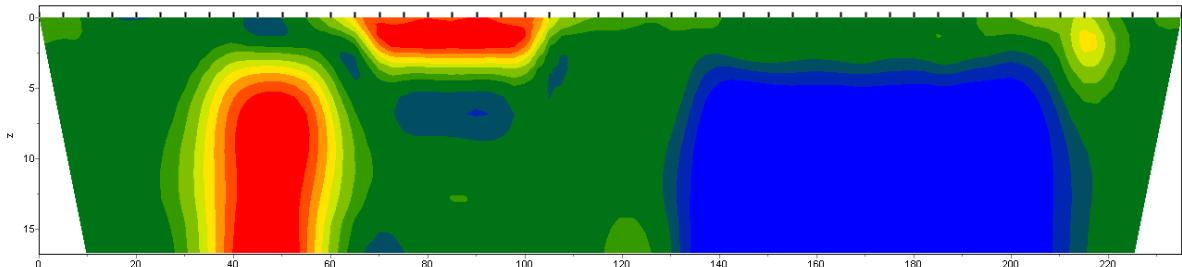

Fig. 40 Regenerated model as a result of Occam inversion.
**Occam** is inversion by least-square method with use of smoothing operator and additional contrast minimization [Constable, 1987]. As a result of this algorithm the smoothest parameter distribution is received (fig.40).